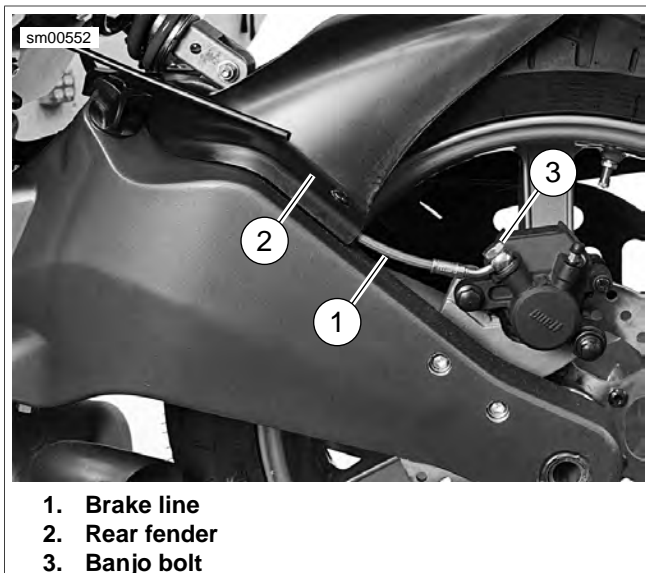

Figure 2-79. Rear Brake Line: Ulysses
- See Figure 2-79. Remove the rear wheel fender. See 2.15 FENDERS.